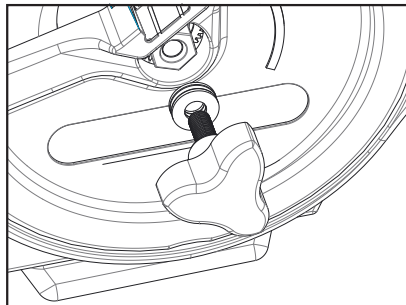

Figure 24
2. Rotating clockwise, remove the clutch knob.(Figure 24)